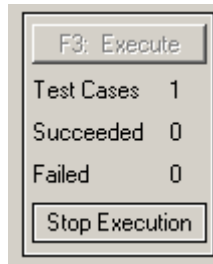

Figure 6-11. Script Server Window (Stop Execution)
5. The Script can be terminated normally or can be stopped by clicking on the Stop Execution button in the Script Server window as shown in Figure 6-11.